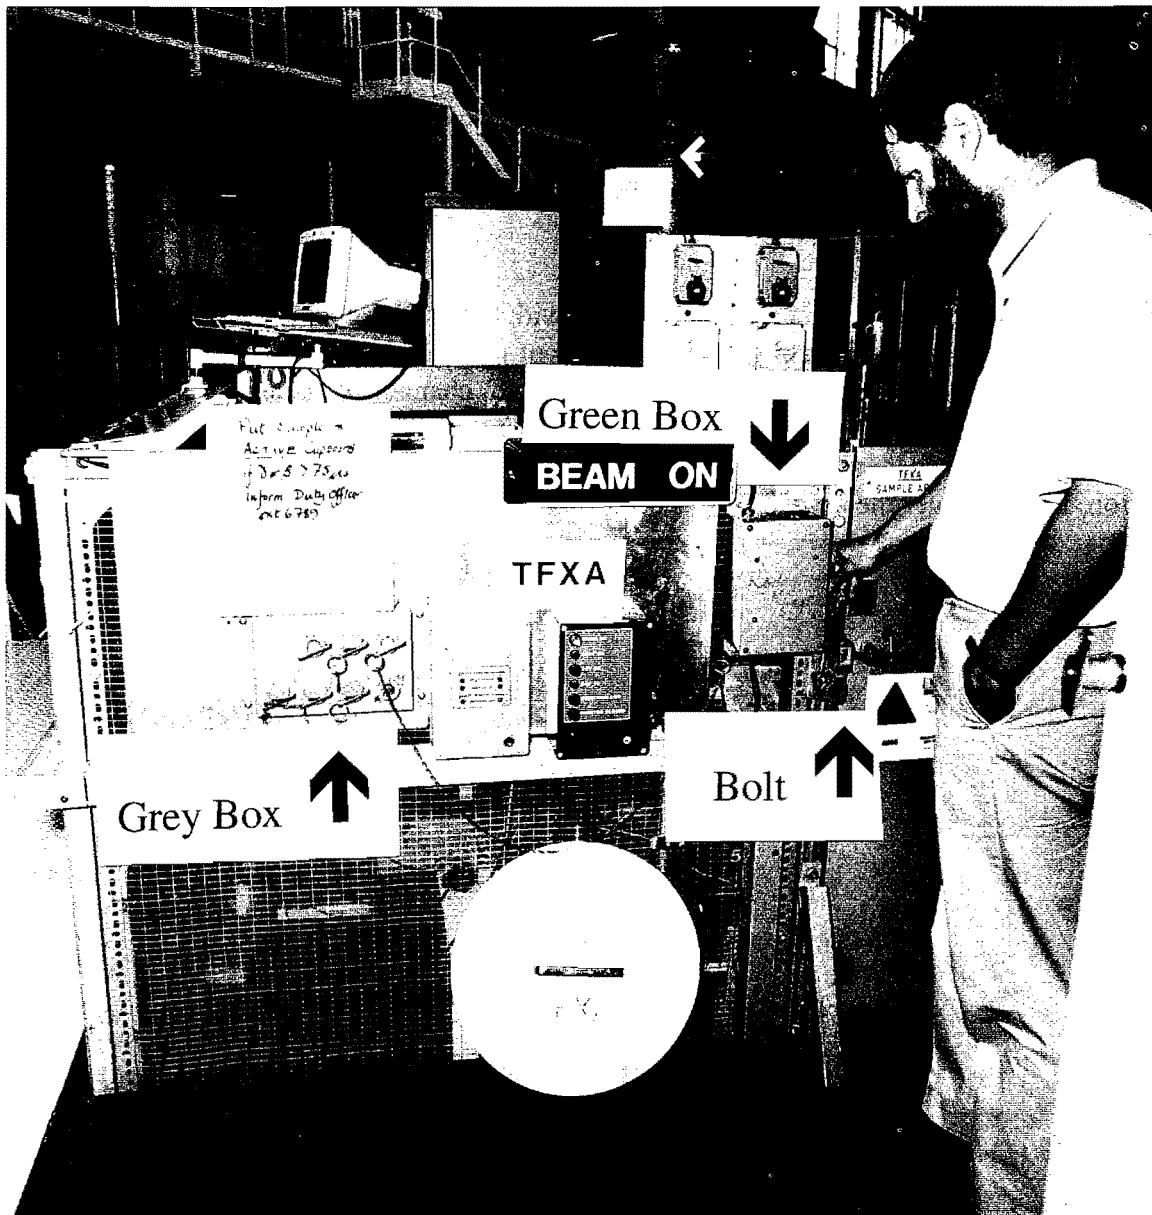

Figure 2.4.1: The TFXA gate shutter and interlocks.
Figure 2.4.1 shows the gate and interlocks to the TFXA enclosure.
- 2) In the TFXA enclosure, push the button marked "PUMPING UNIT" on the panel labelled SAMPLE TANK on the pumps panel, see *Figure 2.4.1* and section 3.1.1.